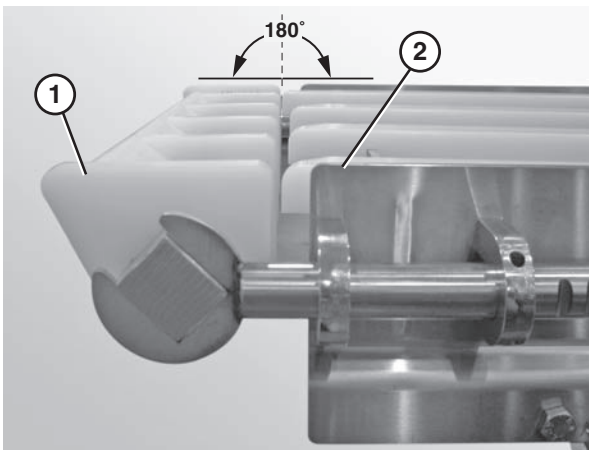

Figure 21
- Ensure that the nose bar pucks (Figure 21, item 1) are in line with the conveyor frame (Figure 21, item 2).